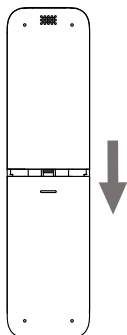

Figure 2.2
- 1) Slide to move the battery cover at the back of the remote controller in the direction indicated by the arrow (Figure 2.2);